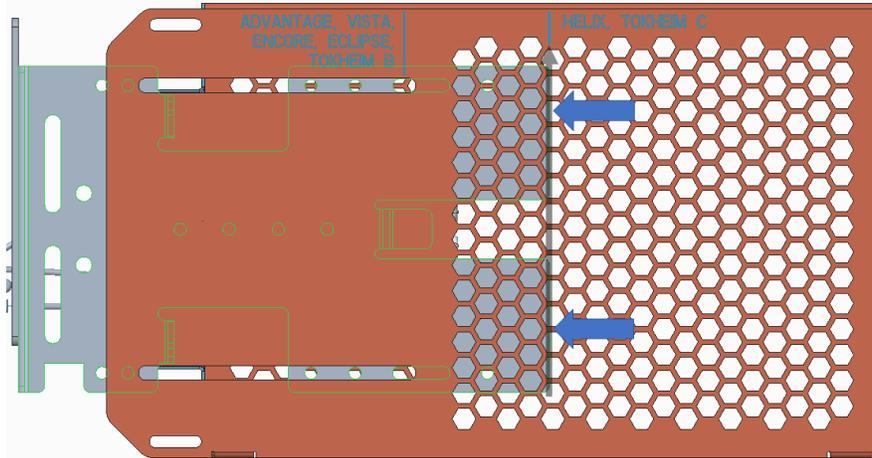

Figure 234
- 6) Slide the wire guard (497-0522796) around the NCR heater assembly so that the edge of the bracket aligns with the Helix, Tokheim C alignment mark as shown in Figure 234.